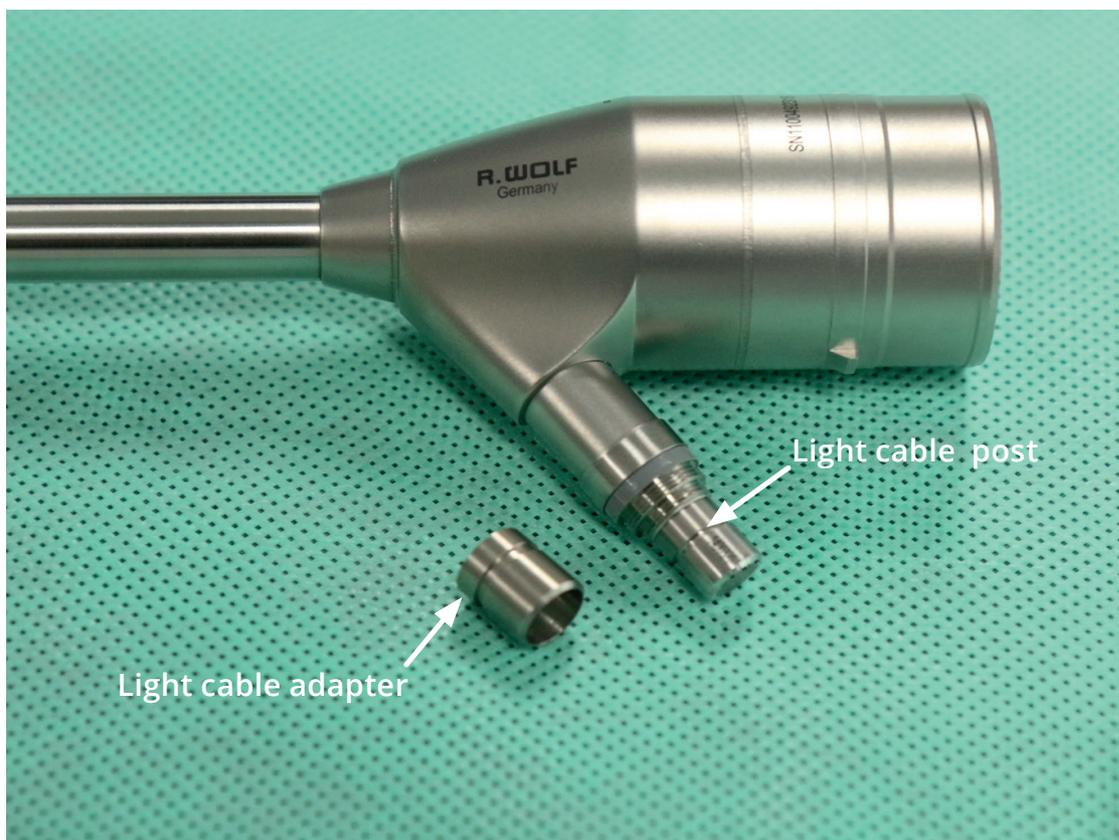

Figure 2.4 *Versius Endsocope (disassembled)*
- Light cable post (Figure 2.4)
- Light cable adapter (Figure 2.4)
The light cable adapter unscrews from the light cable post (see Figure 2.4). This is required during reprocessing. See the Versius Endoscope Reprocessing Instructions (REF 70200).